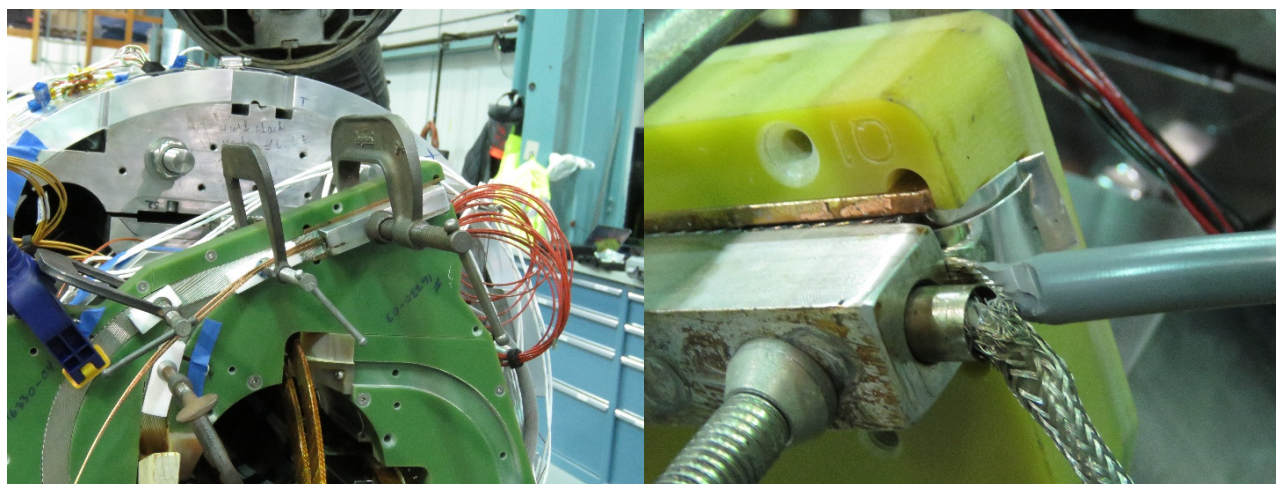

Figure 11: Splice solder setup
53. Cut two more pairs of voltage tap (VT) wiring (28 AWG, Kapton/Tefzel insulated) to **5m (16 ft 5 in)** in length for the 2nd layer.
54. The positioning of the two pairs of VT wires is determined by the VT holes of the Top Plates. Refer to **Figure 11** for approximate locations. 1.